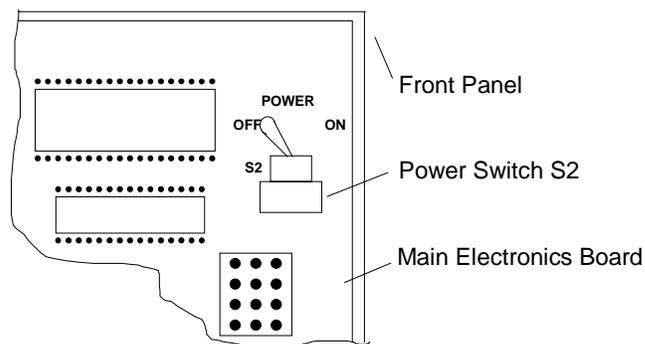

FIGURE 3-1. POWER SWITCH LOCATION
1. Set the RANGE multiplier switch (located inside the small door on the analyzer front panel) at 1000. Place POWER switch (located in the upper right-hand corner of the main electronics board on the back of the front panel) at ON. See Figure 3-1. The display should light up.